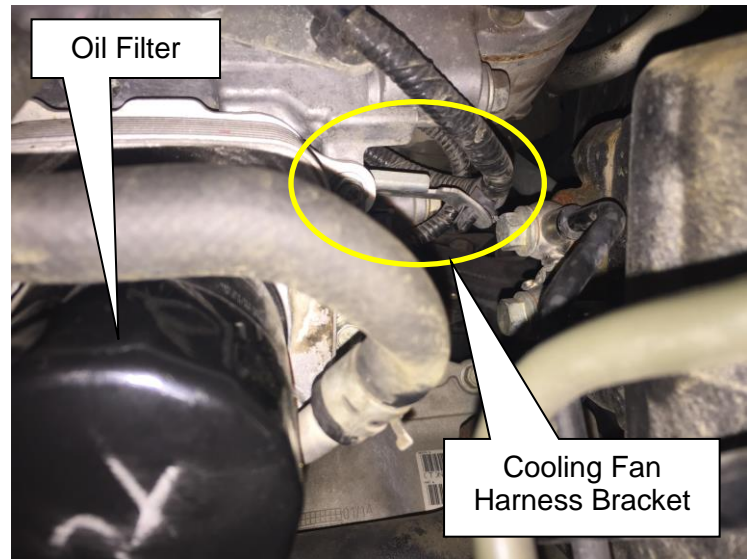

Figure 7
5. Reposition cooling fan harness bracket. Bracket bolted to block across from steering gear box on drivers side of truck (Figure 7)